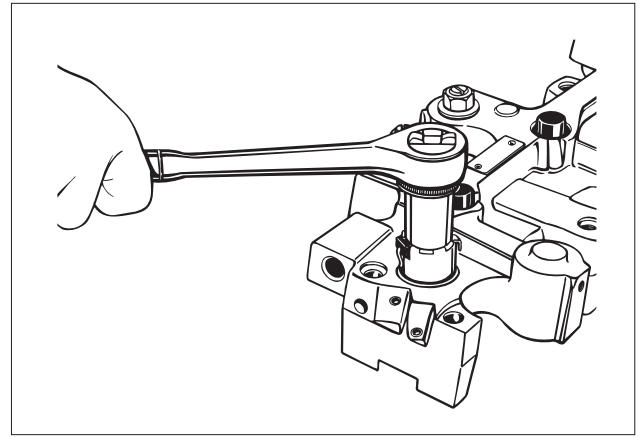

FIG. 21
1. Disconnect the solenoid harness. Using a 3/4" socket and extension, unscrew the solenoid valve (see Fig. 21).